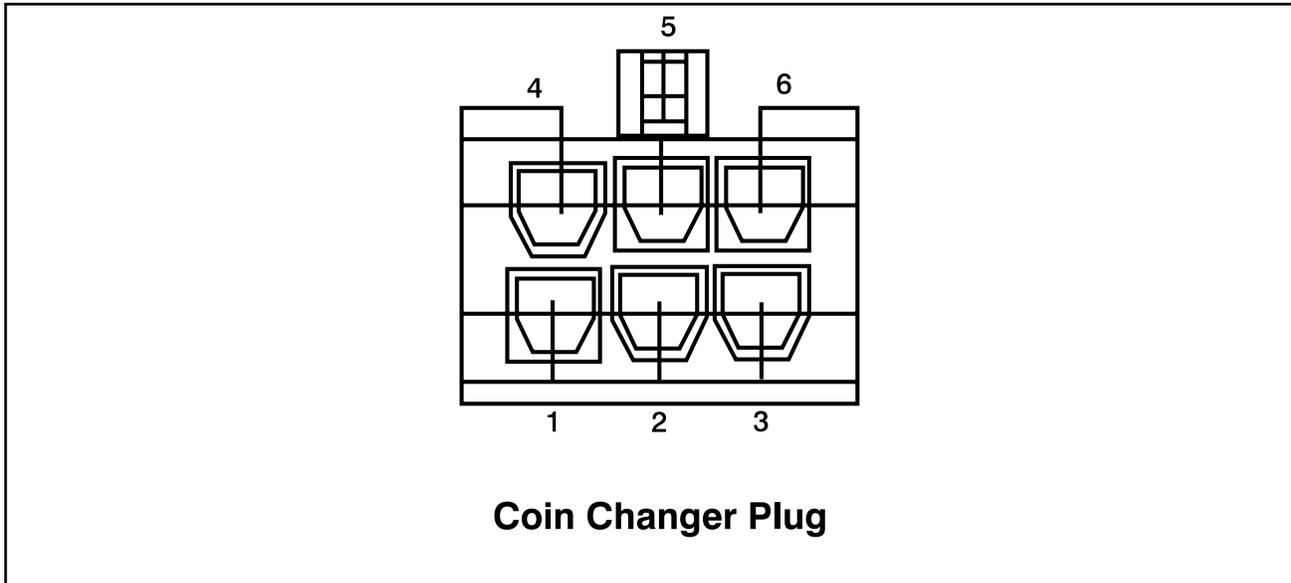
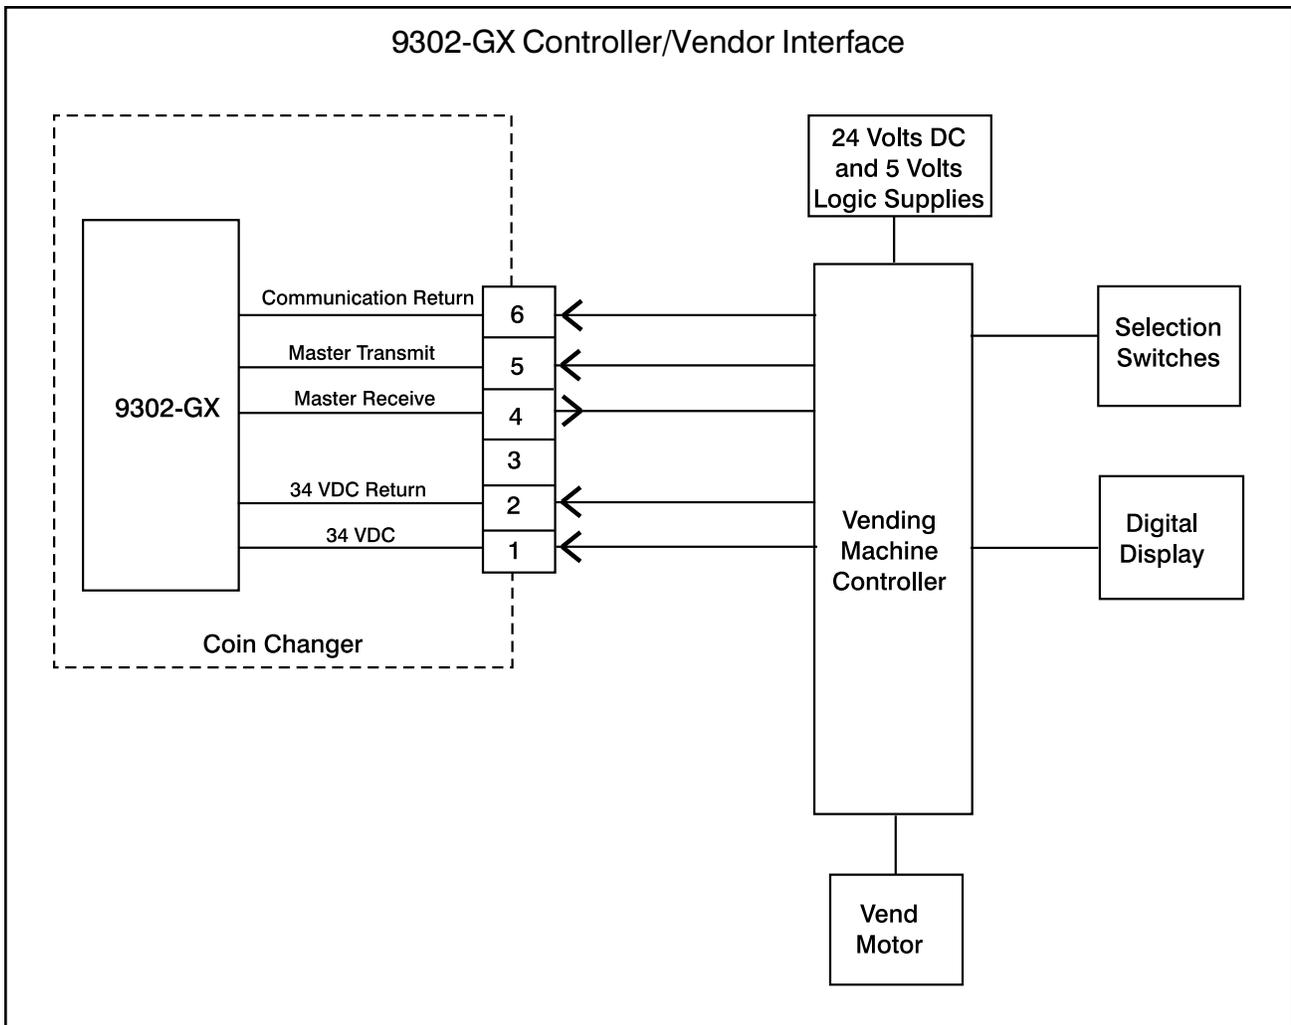

Figure 9
Figure 10
*See Figures 9 and 10*
The 9302-GX changer's interface connector is shown in Figure 9. Figure 10 shows the interface between the 9302-GX, vendor and electronic controller.
The vendor electronic controller board is in constant communication with the 9302-GX coin changer. The electronic controller board not only supplies operating voltage to the coin changer but is largely responsible for the operation and function of the coin changer. (Refer to Section 3, Figure 10)